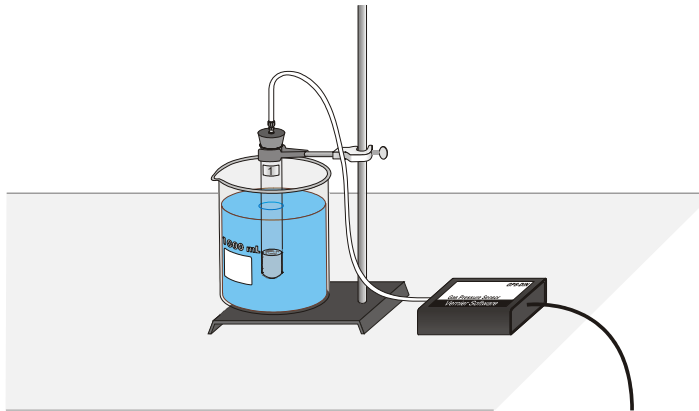

Figure 1
17. Insert the single-holed rubber-stopper into the test tube. **Note:** *Firmly* twist the stopper for an *airtight* fit. Secure the test tube with a utility clamp and ring-stand as shown in Figure 1.